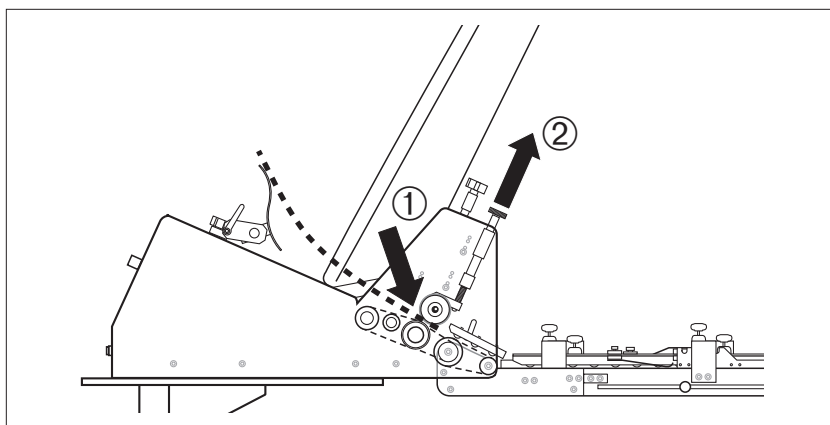

Figure 3. Lift Gate Assembly to Insert an Envelope
1. Slide one envelope under the gate assembly (Figure 3, ①). You may have to pull up on the adjustment knob to allow the envelopes to be inserted (Figure 3, ②).